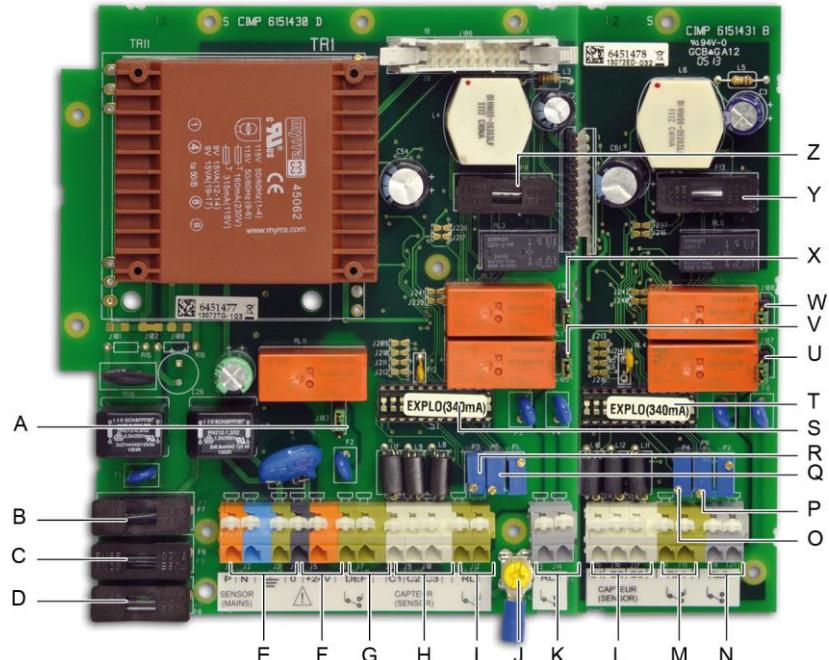

Figure 4: Internal view.
P.	Access to the zero and sensitivity settings (Figure 4, ref. O to R).
The ground terminal (yellow) (Figure 4, ref. J) is indicated with the following symbol:
The sector power supply must be wired to the two terminals marked P (orange) and N (blue) (Figure 4, ref. E) on the 12 point terminal block for the power supply card; also see the wiring example on page 11. Protection is provided by fuses F8 and F9 (160 mA/250 VAC) (Figure 4, ref. C and ref. D).
Protection is provided by fuses F9 and F8 (315mA/250 VAC) (Figure 4, ref. C and ref. D).
Must be connected to the terminals marked 0 (grey) and +24V (orange) on the 12 point terminal block for the power supply card (Figure 4, ref. F) as indicated by the wiring example on page 11. Protection is provided by fuse F7 (2A/250 VAC) (Figure 4, ref. B).
- A programming circuit (Explo 340 mA or 4-20 mA) will be inserted on the mounting by the manufacturer (Figure 4, ref. S and T).
The relay contacts can be used "normally open" (NO) or "normally closed" (NC) by flipping the corresponding switch (Figure 4, ref. U or V for AL1 alarms and references W and X for AL2 alarms).